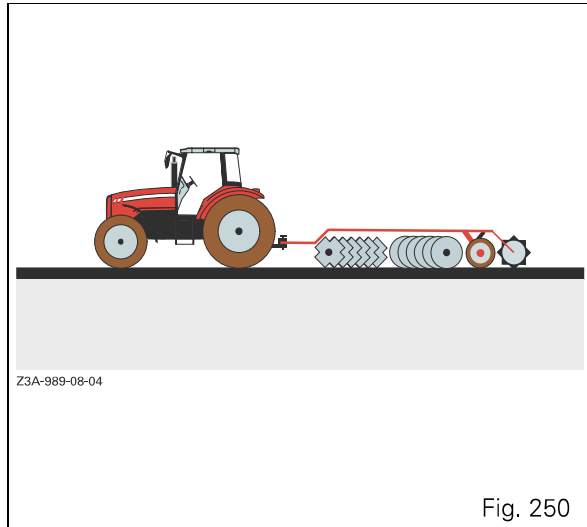

Fig. 250
- Place the disc tiller in working position (Fig. 250) using a linkage cylinder spool valve control.